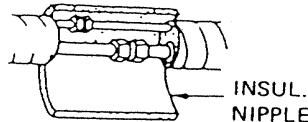

Fig. 6
- After performing a leak test on the connecting part, insulate it with an insulation and finish with a vinyl masking tape over it. Fig. 6